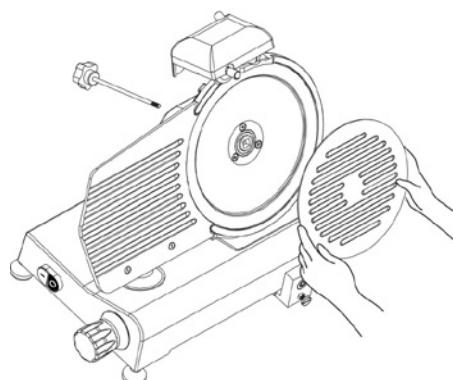

Fig. 6 – Blade guard removal
- set the dial knob in the "0" position (1);
- set the carriage (2) at the end of its run (a) near the controls;
- unscrew the screw (3), slide the carriage upwards (b);
Unscrew of the knob of the tie screw (1) [see Fig. 6] to release the blade guard (2).